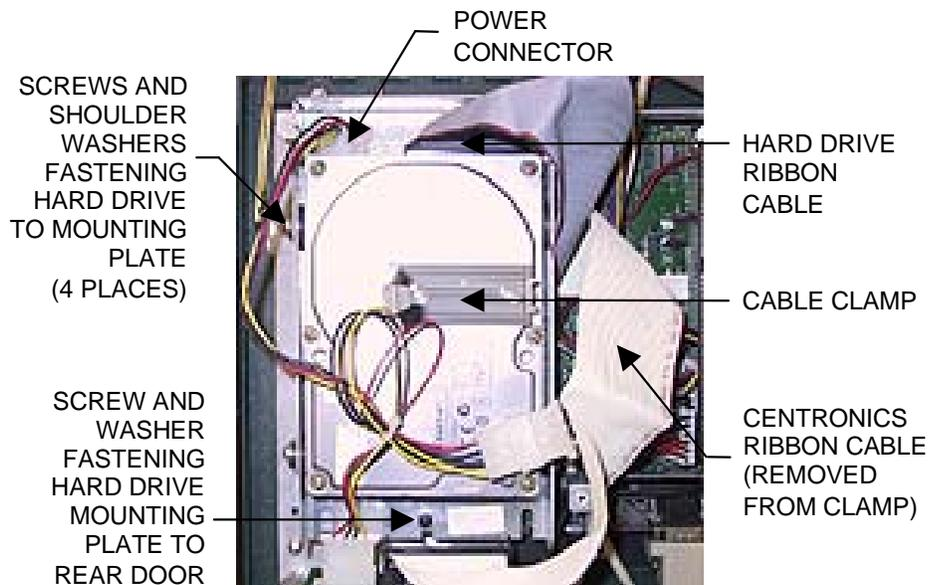

FIGURE 1 - EZ MAXX/MAXX ELITE - CLOSEUP OF CPU SECTION
4. Remove the screw and washer fastening the hard drive mounting plate to the CPU shelf and carefully pull the hard drive assembly away from the game. See Figure 1.
5. Remove the 4 screws and shoulder washers fastening the hard drive to the mounting plate and remove the drive. See Figure 1.
6. Remove the grommet surrounding the wires on the 4-pin power connector from the cutout in the hard drive mounting plate in order to make room to unplug the connector. Then unplug both the power connector and the ribbon cable from the hard drive. See Figure 1.
3. Place the hard drive assembly in the game and fasten the mounting plate to the CPU tray with the screw and washer. See Figure 1.